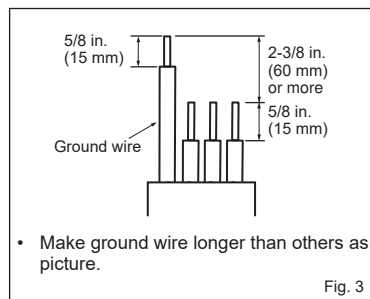

Fig. 3
- 7) Process the end of ground wire (Fig. 3). Connect it to the ground terminal of electrical parts box.
- 8) Process the end of indoor/outdoor unit connecting wire (A) (Fig. 3). Attach it to the terminal block. Be careful not to make mis-wiring. Attach the wire to the terminal block securely so that its core cannot be seen, and no external force affects the connecting section of the terminal block.
- Put the drain cap into the section to which the drain hose is to be attached at the rear of the indoor unit. (Fig. 3)
- 2) Remove all burrs from the cut section of the pipe, ensuring that precautions are taken to avoid getting metal shavings into the piping. (Fig. 3)